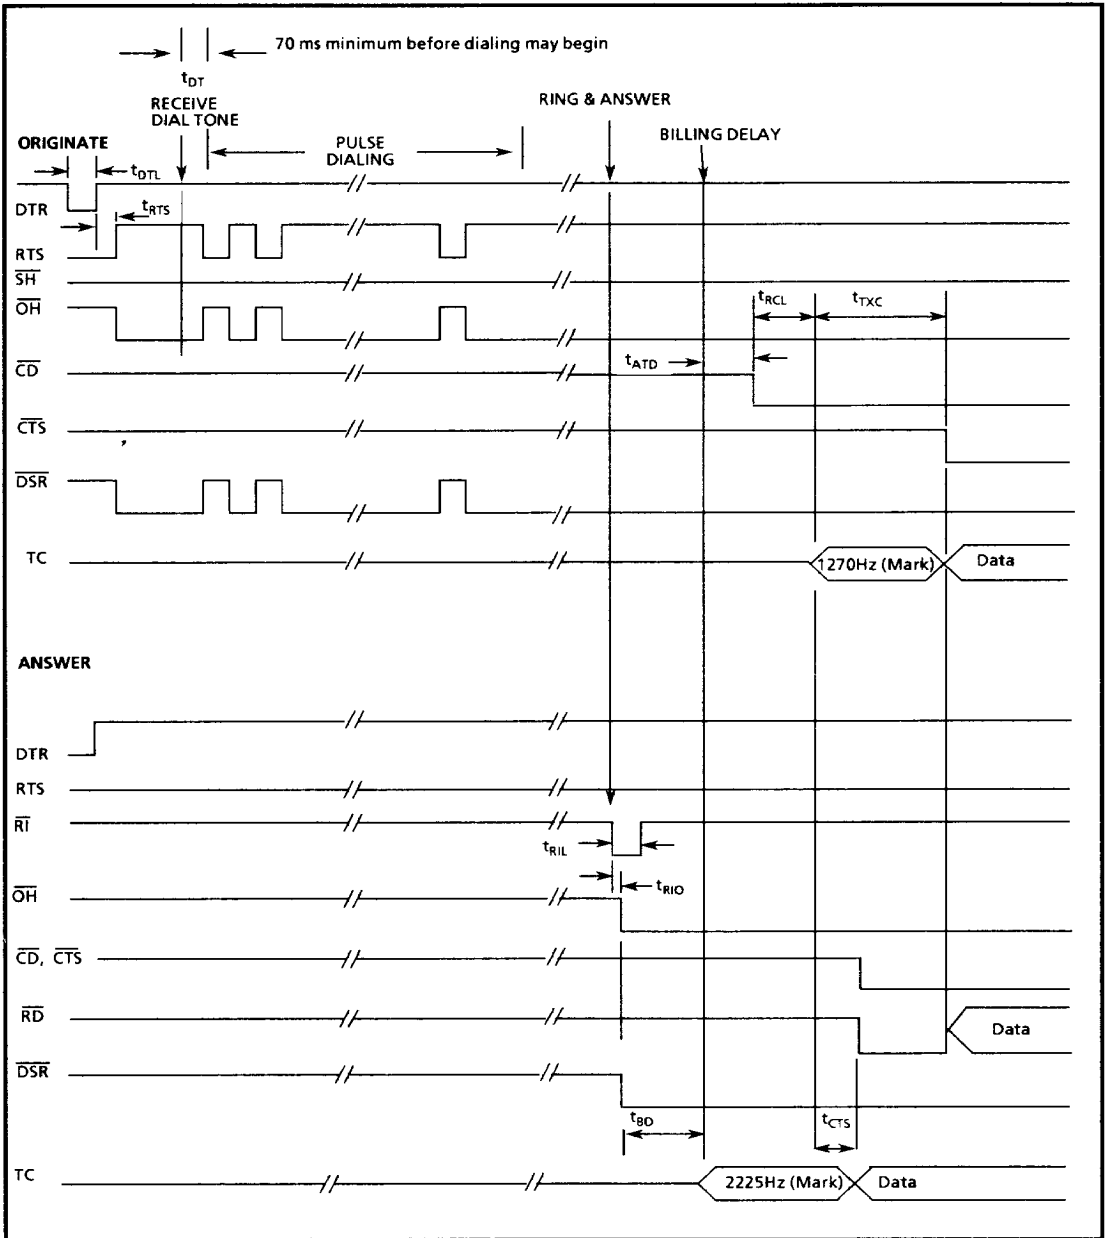

Figure 2 - MT3530 Modem Timing Chart for Bell 103 Operating Mode
**Modem Timing† Parameter for CCITT V.21 Operating Mode. See Figures 2 and 4a.**
## Modem Timing† Parameters for Bell 103/CCITT V.21. See Figures 2, 3, 4b & 5.